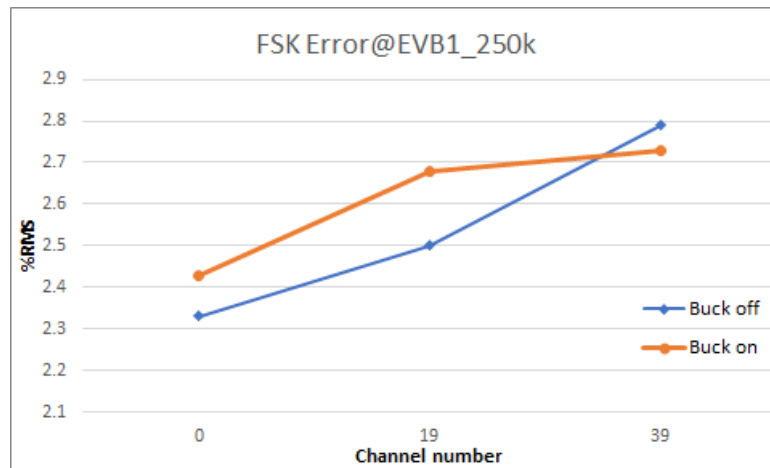

Fig 14. FSK error @ 250 kbit/s
- The FSK error with the GFSK data rate of 250 kbit/s is shown in Fig 14.